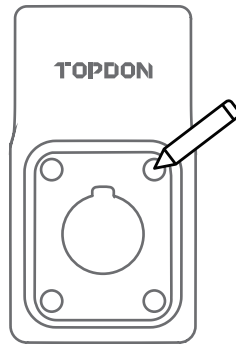

Fig. 4-20
2. Place the cable holder on the wall and mark the mounting holes. (See Fig. 4-20)